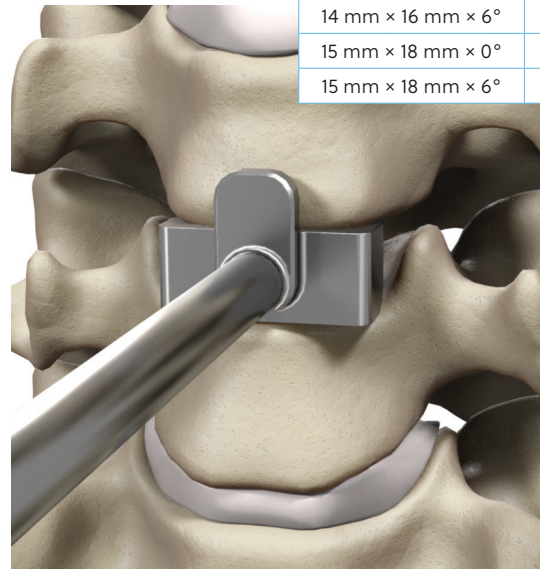

Figure 50
- Once the height is determined, select the appropriate plate footprint by using the trials and rasps (12 × 14, 14 × 16, or 15 × 18). These instruments equal the shape of the plate plus structural allograft/autograft (Figure 50).